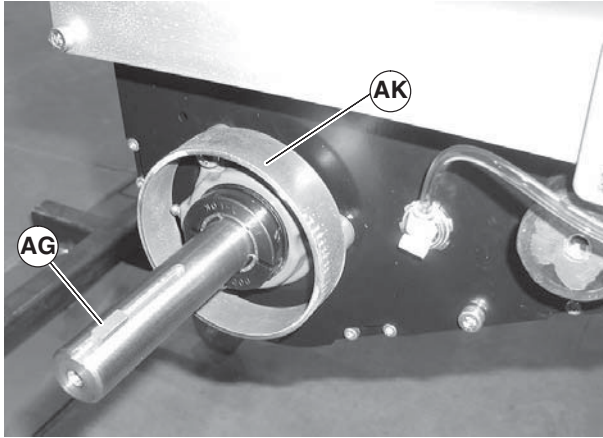

Figure 77
- Remove spacer ring (Figure 77, item AK) and key (AG).